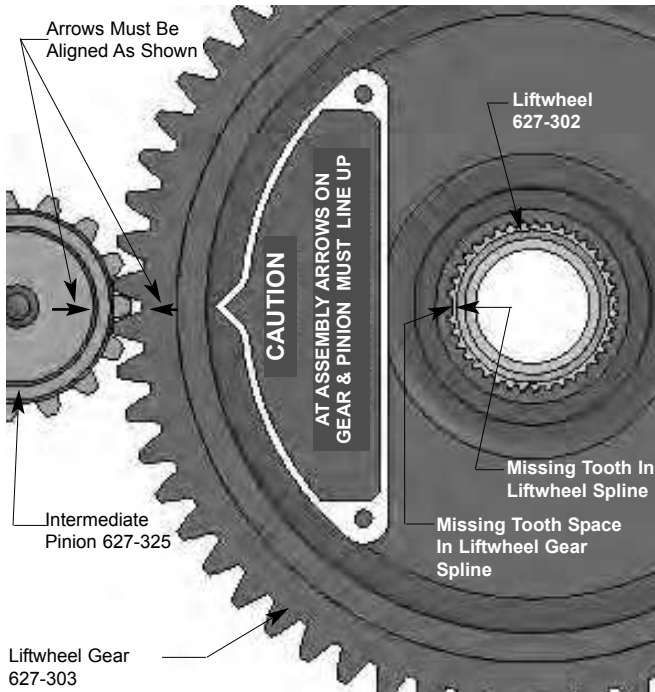

Figure 22. Non-Circular Gearing
3. Use a bolt cutter (Figure 22) similar to the H.K. Porter No. 0590MTC with special cutter jaws for cutting hardened chain (25.4mm-1 inch) long cutting edge.